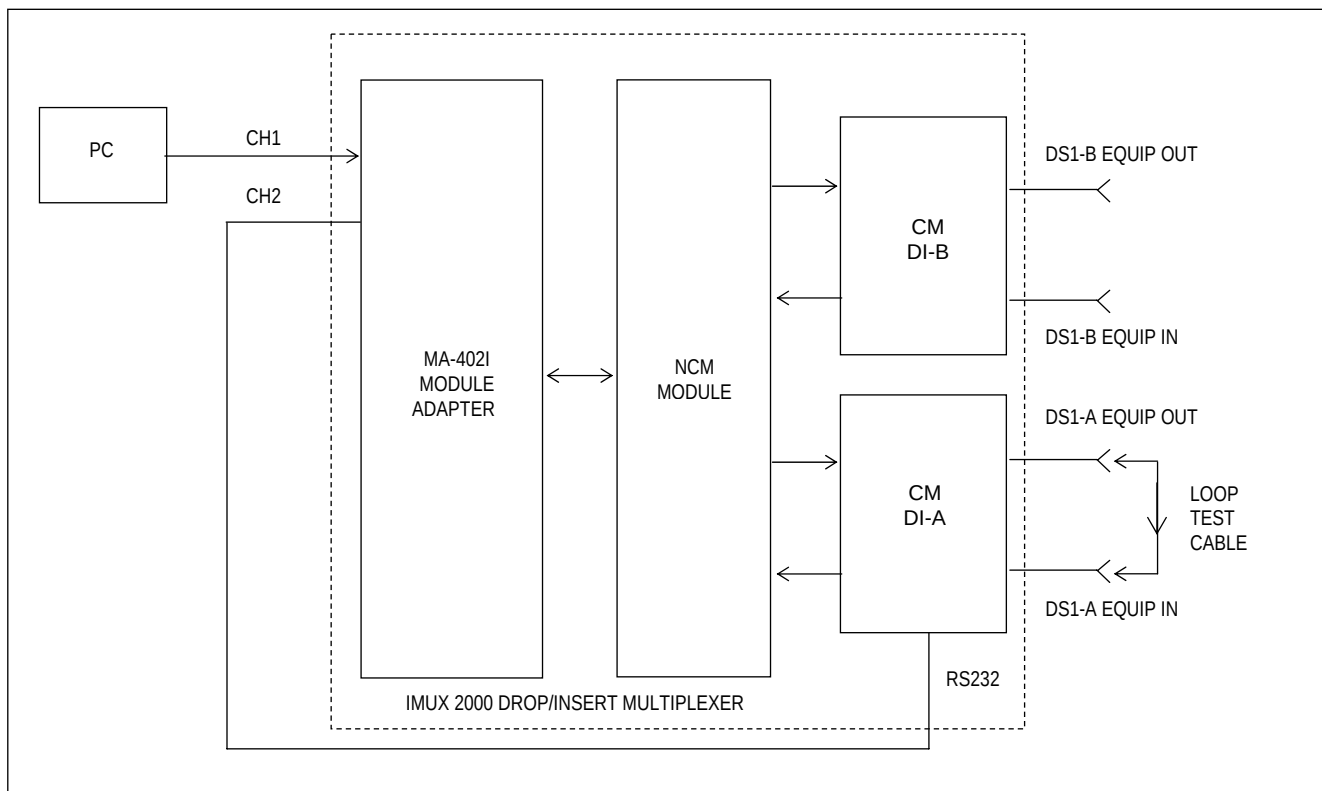

Figure 10. Simplified block diagram, loop test for RFL NCM module in NMS mode, installed in a DI-A configured multiplexer.
8. Connect the PC to the CH1 RS-232 connector using the male to female RS-232 connector. At this point, the equipment should be connected as shown in Figure 10. Run the RFL NMS communications software and set the parameters exactly the same as the CM and the NCM.